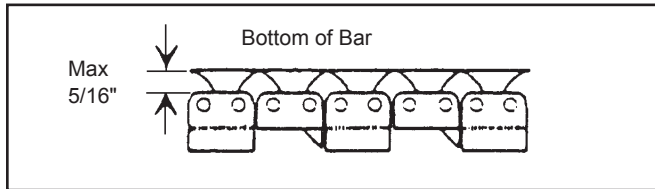

Figure 3. Maximum Chain Clearance
1. Make sure the chain does not exceed a clearance of 5/16 in./8 mm from the bar (see Figure 3). Exceed-